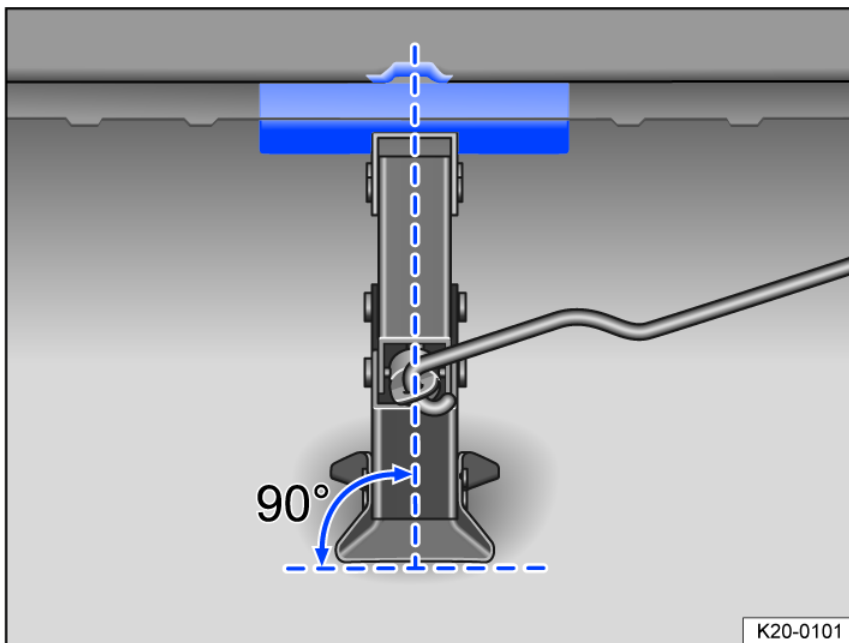
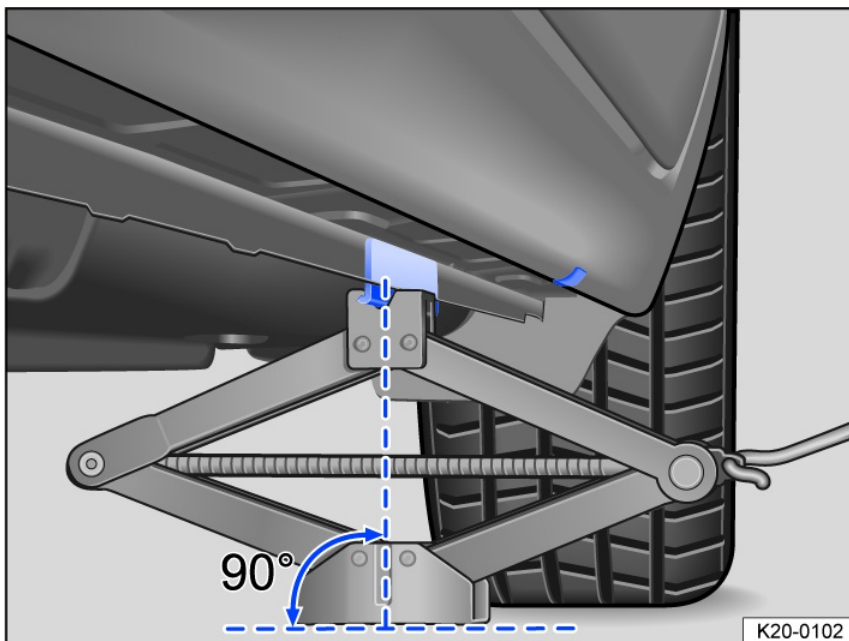

Fig. 216 Correct jack setup.
Fig. 217 Scissor lift vehicle jack positioned on the left rear side of the vehicle.
10. Make sure the entire base of the jack is seated securely on the ground and that the base of the jack is located exactly directly below the lift point fig. 216 and fig. 217.
11. Straighten the jack and continue cranking the claw on the top of the jack upward until the claw is positioned on the jacking point under the vehicle fig. 217.
- Only place the vehicle jack at the locations described. The bracket on the vehicle jack must firmly grip the sill fig. 217.